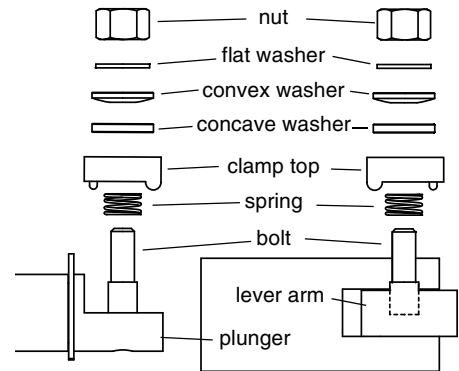

Fig. 10: Remove clamps (side view)
- For each coupon clamp, remove the nut, washers, clamp top, and spring from the bolt (Figure 10).